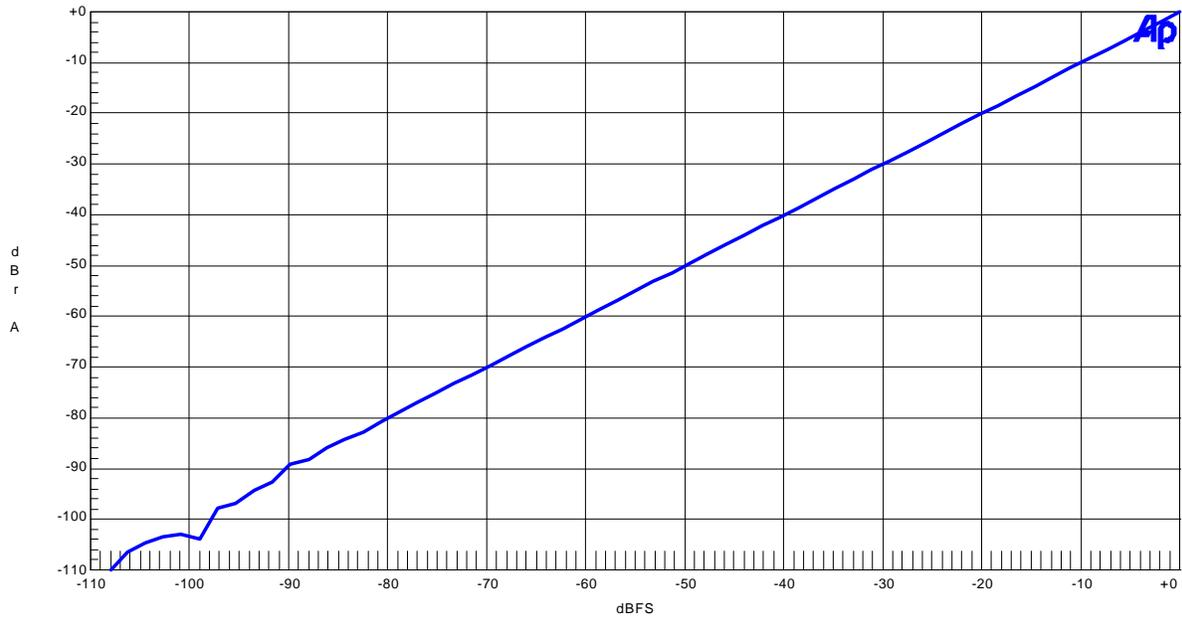

Figure1-7.Linearity (fin=1kHz)
- Figure 1-7. Linearity (fin=1kHz)